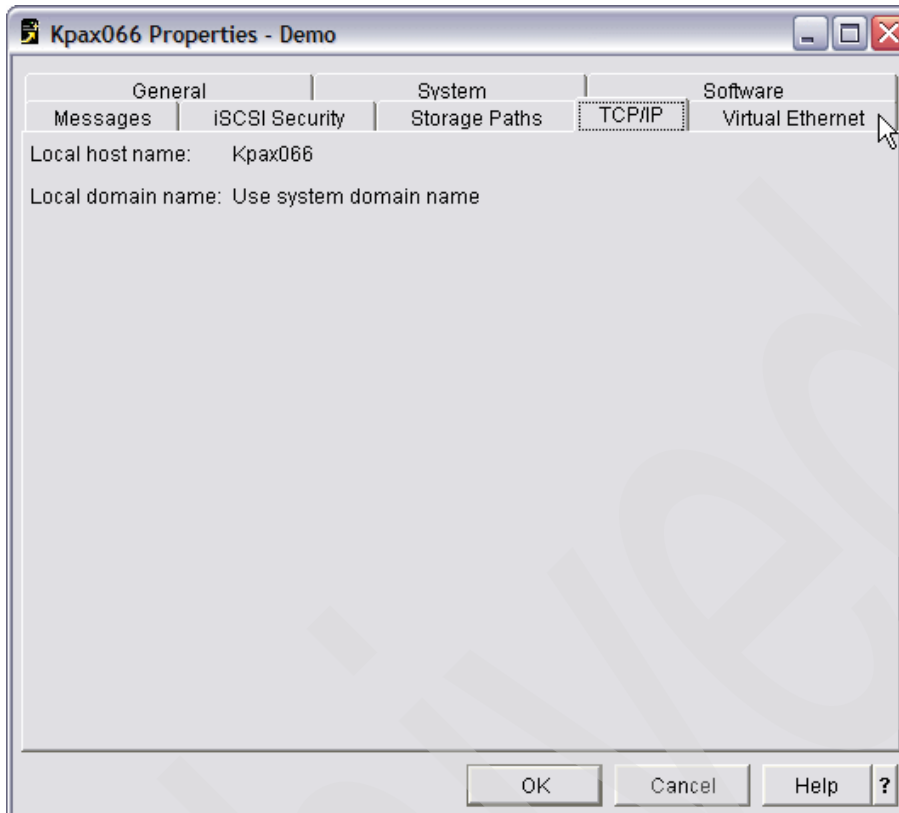

Figure 6-69 TCP/IP tab NWSD Properties
► **TCP/IP page information (Figure 6-69 on page 217):**